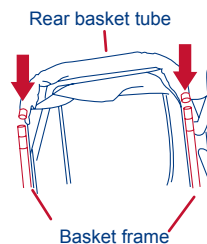

Fig. 11
11) • Insert the female end of the rear basket tube into the male ends located on the basket frame until it locks into place (Fig. 11).